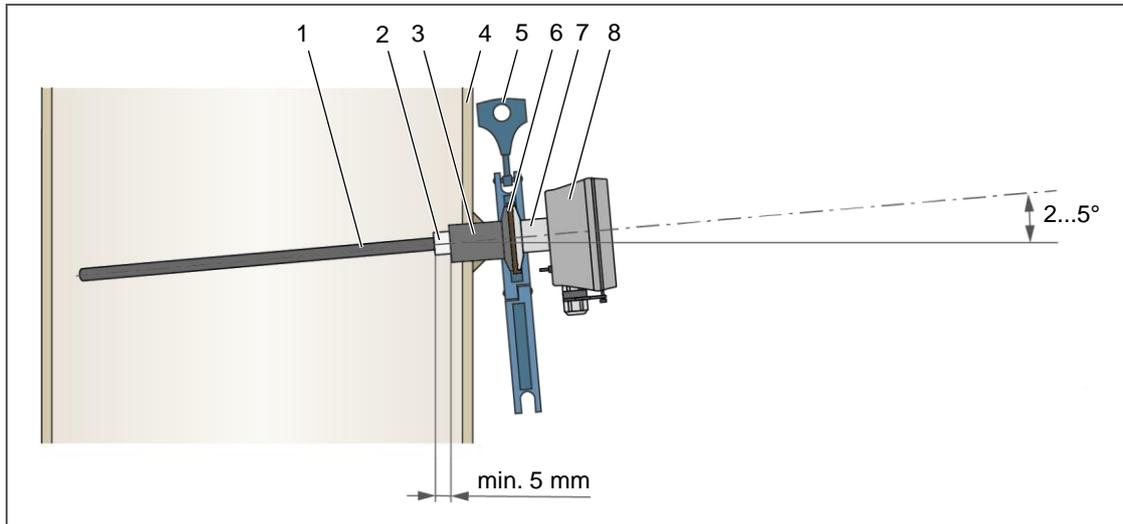

Fig. 9: Installation at duct (side view)
1. Insert the sealing (6, Fig. 9) at the screwing-in of the welding sleeve (3).
2. Lead the probe rod (1) of the device through the welding sleeve into the duct, until the guide bushing (7) abuts on the sealing (6).